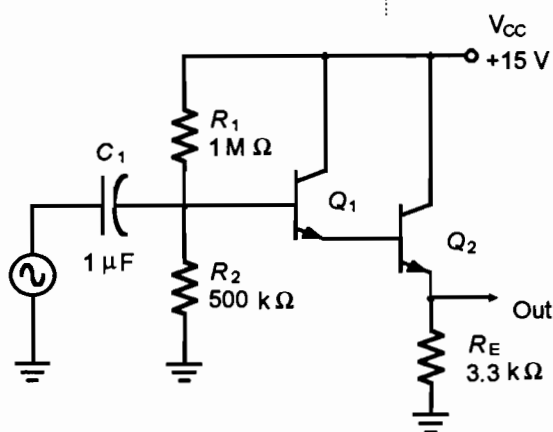

Figure 24.1
1. Build the circuit of Figure 24.1. Connect the +15 VDC power. Do not connect the AC function generator at this time.
Common Collector (Figure 24.1)	Common Emitter (Figure 24.3)
1. Build the circuit of Figure 24.1. Have your lab partner take your circuit and install a fault. To troubleshoot the circuit, use the schematic diagram and have your lab partner make and give the measurement values for any measurement you request.
4. The emitter voltage of Q2 if figure 24.1 is approximately \_\_\_\_\_.